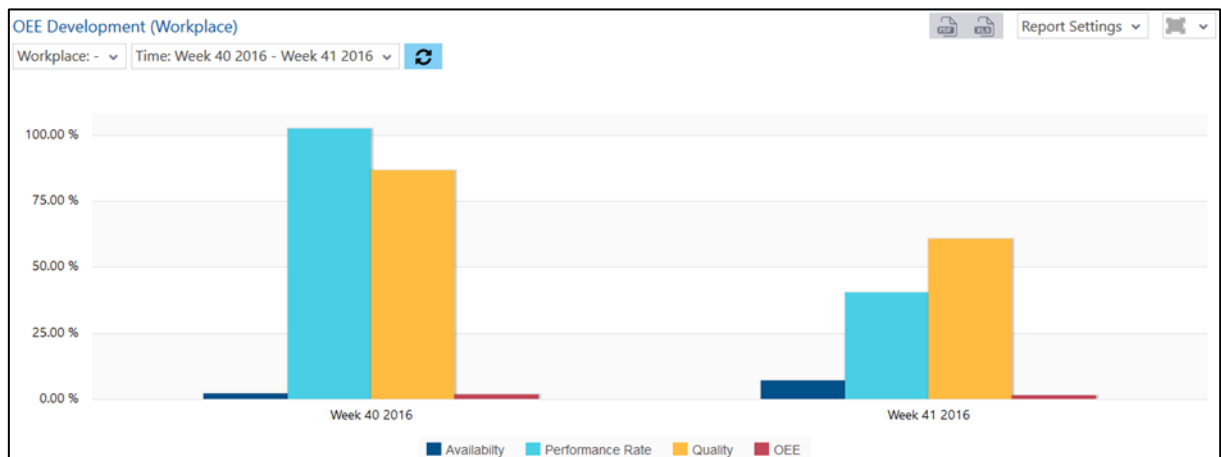

Fig. 47: OEE Development (workplace) as column chart
- OEE Development (workplace) as column chart (fig. 47):